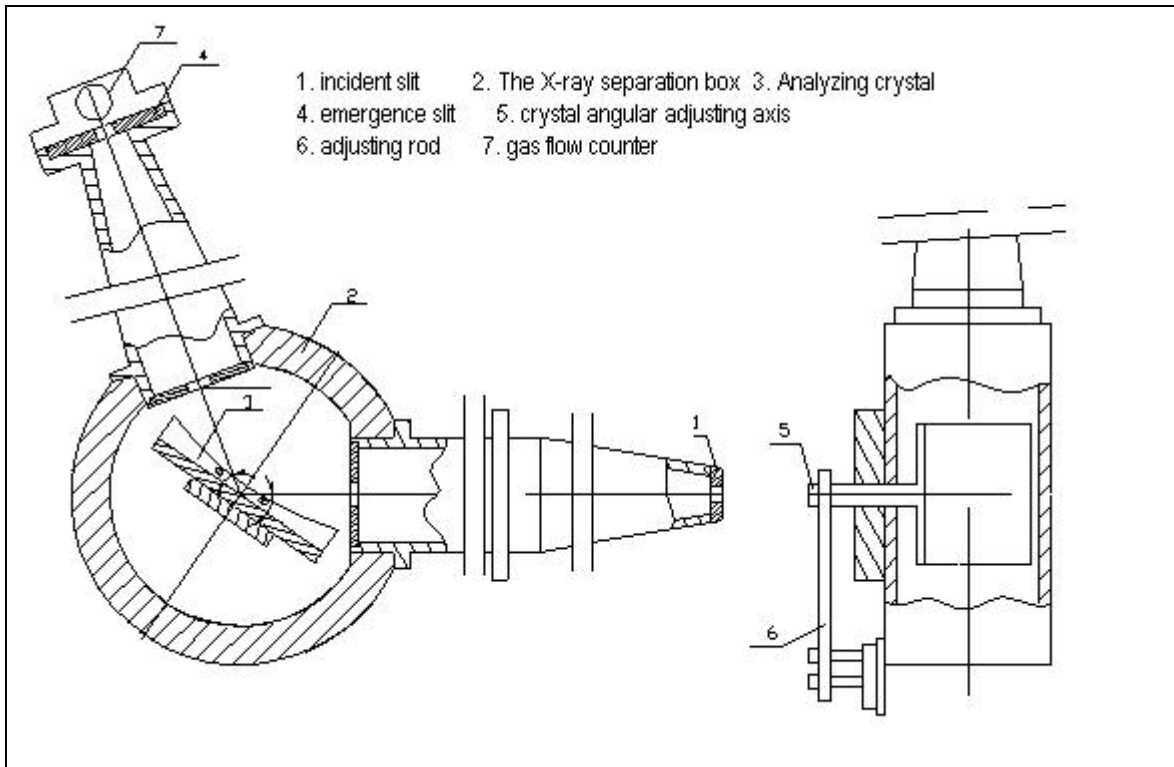

Figure 4-1B: the structure of the curved crystal
② Analyzing crystal: to diffract the characteristic X-ray of the interest element in θ angle while other X-rays of other wavelength either be absorbed or scattered in every direction. Therefore, the category of the analyzing crystal is determined by the wavelength of the characteristic X-ray of the interest elements in accordance with Bragg Law.
③ The X-ray separation box: it contains the analyzing crystal, and the detector is installed on the emergency hole. And the inter-parts are strictly sealed by the sealing devices so as to prevent the vacuum leakage.
④ Secondary collimator: there is a group of paralleled Mo plates, which comes into angle θ with the analyzing crystal and makes the characteristic x-ray of the interest elements to enter the detector with high passage rate while minimizing the x-ray of other wavelength scattered out on the crystal surface. Secondary collimator is fixed on the window of the detector, which uses the polyester film to separate with the detector and the work gas in the gas flow count can be leaked into the vacuum system to influence the vacuum degree. The mo plates of the secondary collimator functions as the support to the membrane, which won't suffer the damage in the work air pressure.
⑤ 、⑥5 and 6 are crystal angular adjusting axis and adjusting rod, which are used for precise adjustment of the crystal angle. They maximize the characteristic x-ray which enters the detector.
2. Figure 4-1B is the composition of the curved crystal. Na path and Mg path in WDX200 must be equipped with this kind of light splitter. The difference between this splitter and the flat one is as below: